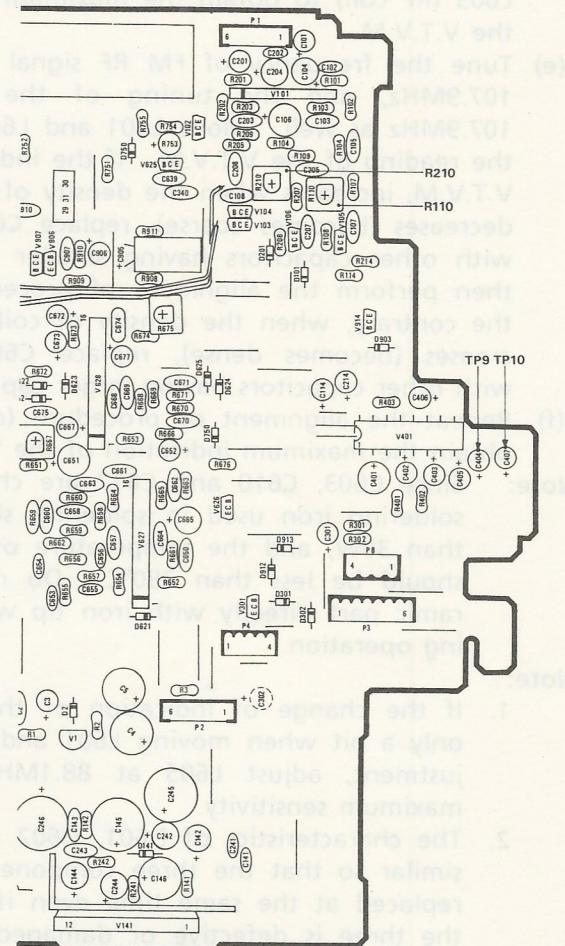

Fig. 13
- (c) The difference of the level between Forward and Reverse directions of the tape transport/reproduction should be ± 1 dB. (Refer to Fig. 13.)